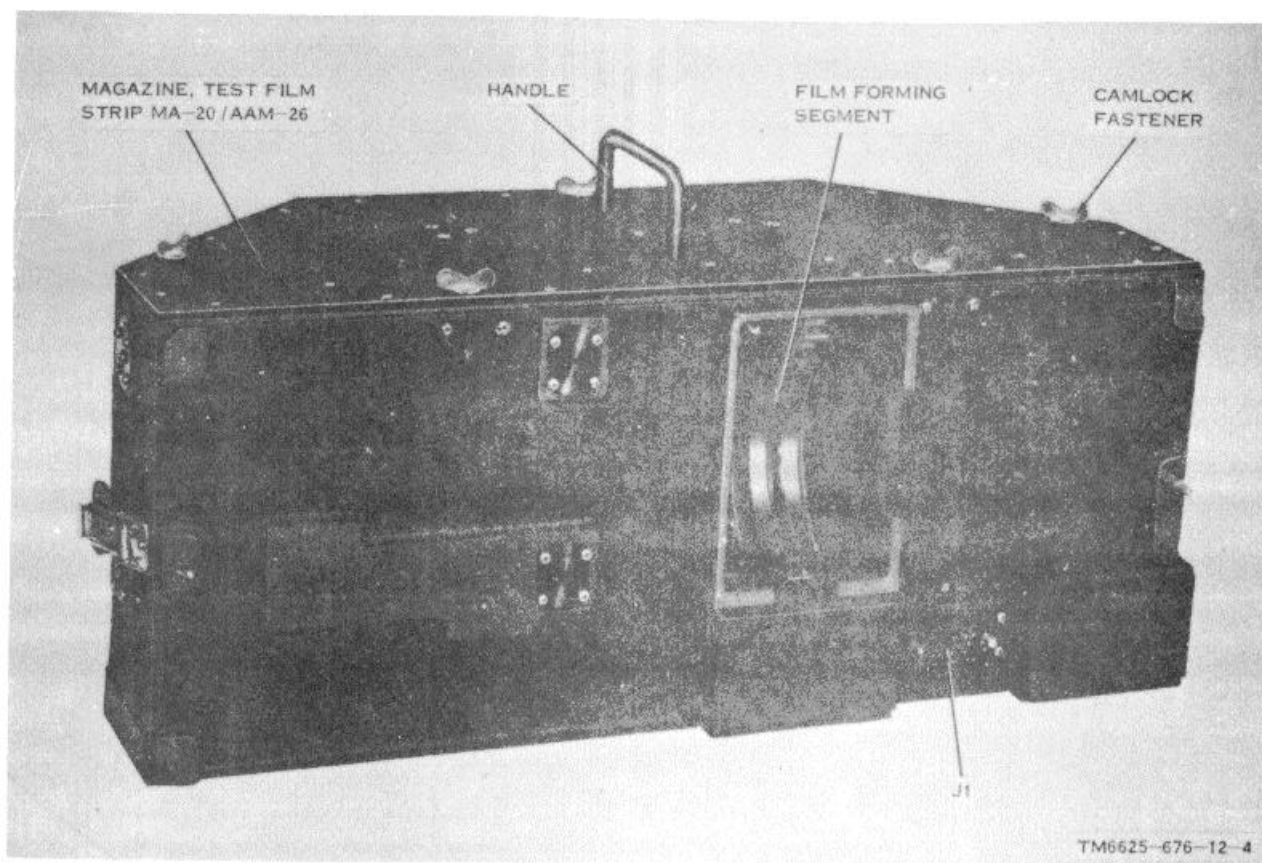
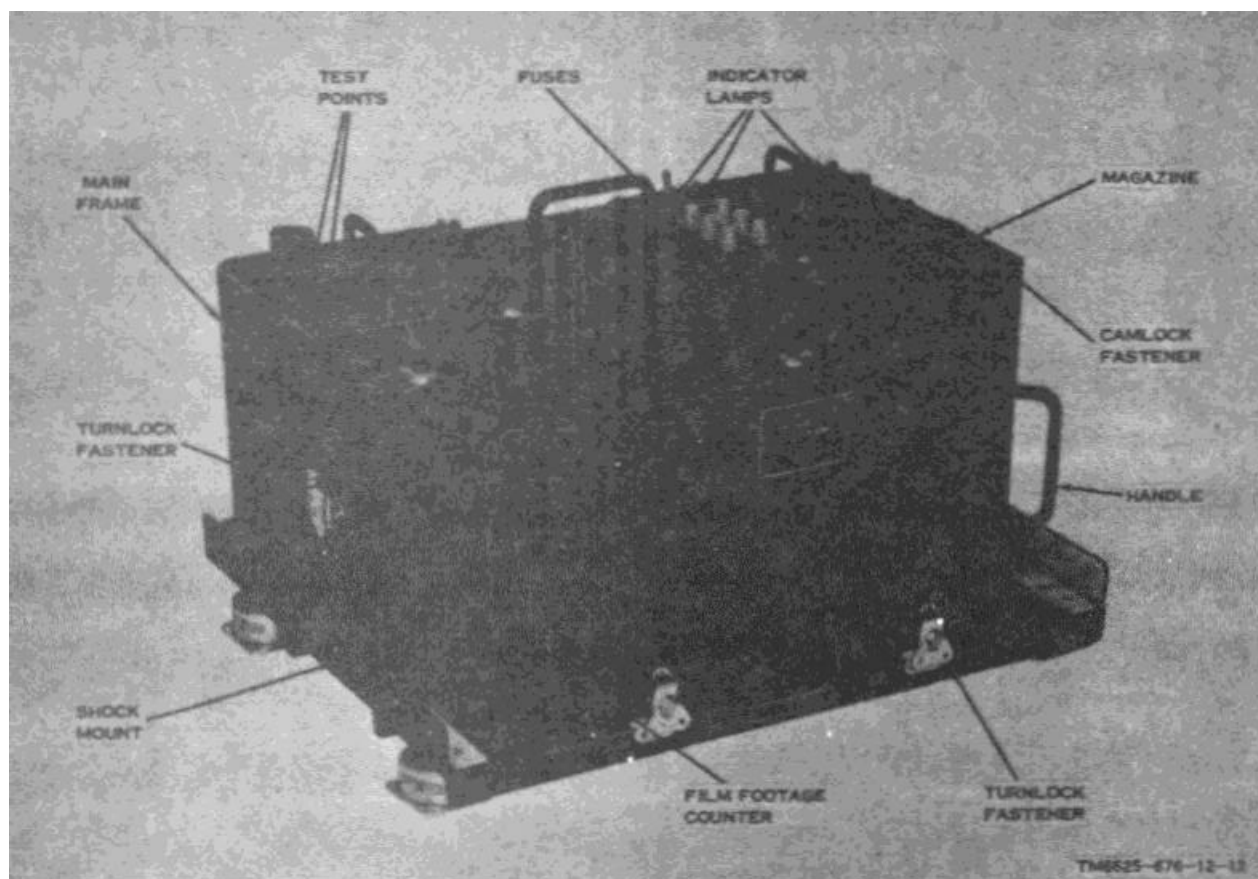

Figure 1-4. Magazine, Test Filmstrip MA-20/AAM-26.
Figure 3-4. Main frame and magazine installed on shock mount.
b. *Magazine, Test Filmstrip MA-201/AAM-26* (fig. 1-4). The *magazine* contains the film-transport and illuminator assemblies (fig. 3-3) and the film footage counter (fig. 3-4). The magazine is secured to the main frame and the shock mount by four turnlock fasteners. Power and control circuits are completed through connector J1.
Film footage counter	Indicates amount of film used. (fig. 3-4).
- a. Remove the magazine from the main frame and the shook mount by disengaging the turnlock fasteners (fig. 3-4), and set the magazine on a good working surface with the film-forming segment (fig. 1-4) to the back.
- b. Turn the camlock fasteners (fig. 3-4) to the left and remove the top cover from the magazine.
l. Turn the camlock fasteners (fig. 3-4) to the right to secure the top cover to the magazine.
a. Observe and record the indications of the film footage counter (fig. 3-4) on the magazine of the video generator group and SLATE NO. counter on the control panel of the infrared detecting set.
b. Set the FILM SPEED switch (fig. 3-1) on the main frame to 3; observe that the film footage counter (fig. 3-4) is advancing and that the FILM OUT indicator (fig. 3-1) is not lighted. Observe that the VIDEO INDICATOR varies in intensity, indicating the presence of the. Video output.
d. Set the FILM DR PWR switch on the control panel to ON and reset the film footage counters on the magazines (both the infrared detecting set and the video generator group (fig. 3-4)) to 0000.